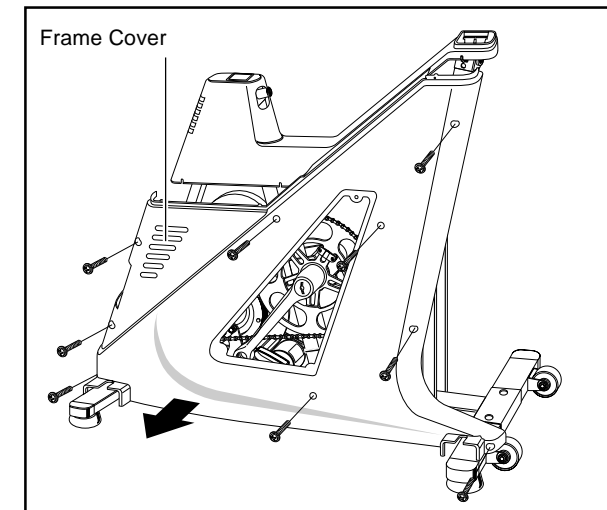

Fig. 6
7. Remove the frame cover fixing screw with a screwdriver before removing the frame cover. (Fig. 6)